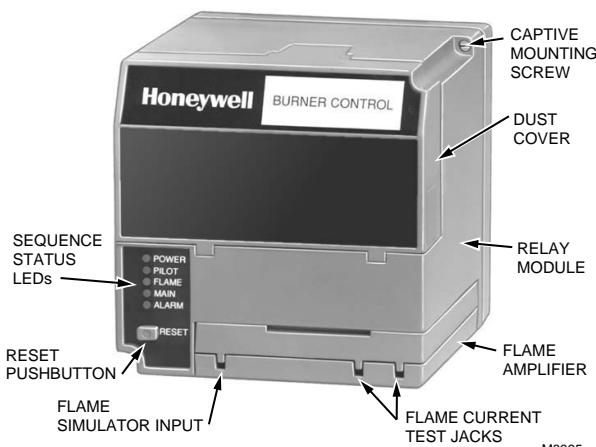

Fig. 1. Sequence status LED.
- **Five LEDs for sequence information (see Fig. 1).**